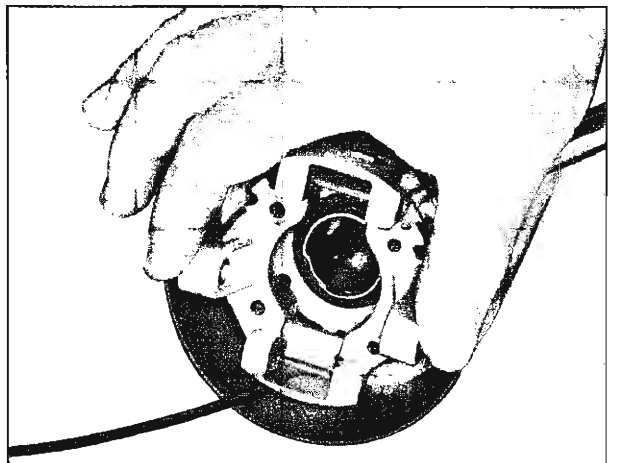

Fig. 24—Actuator Support
17. Remove the four actuator support screws and the support from the mast jacket (fig. 24).